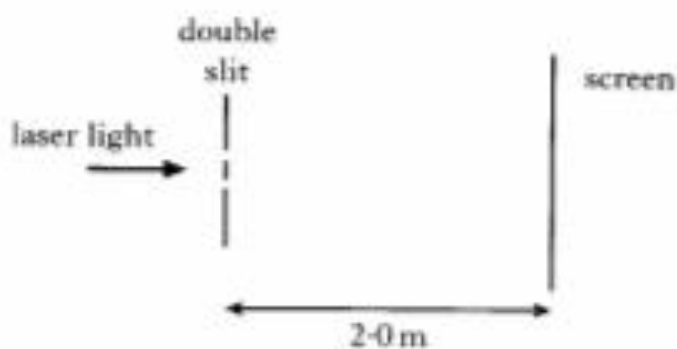

Figure 9
- (b) Light from a red laser is incident upon a double slit which has a slit separation of 5.0×10^{-5} m. A screen is placed 2.0 m beyond the double slit as shown in Figure 9.